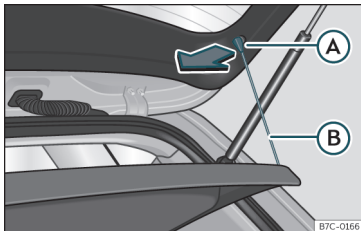

Fig. 135 In the boot: removing and installing the shelf.
- Detach the cord loops >>> **Fig. 135** **(B)** from their hooks **(A)**.
- Hook the loops >>> **Fig. 135** **(B)** to the rear lid.